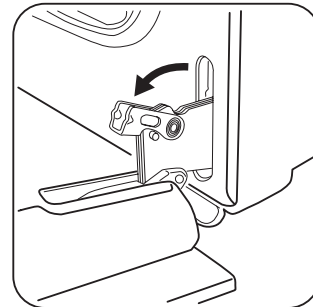

Figure 22: Door hinge Locks
2. Lift and turn/pull the levers on both of the door hinge locks down from the oven frame completely towards the oven door (Figure 22). A tool such as a small flat-blade screwdriver may be required.
4. Lift and turn/push the levers on both of the door hinge locks up towards and into the oven frame to the locked position (Figure 22).